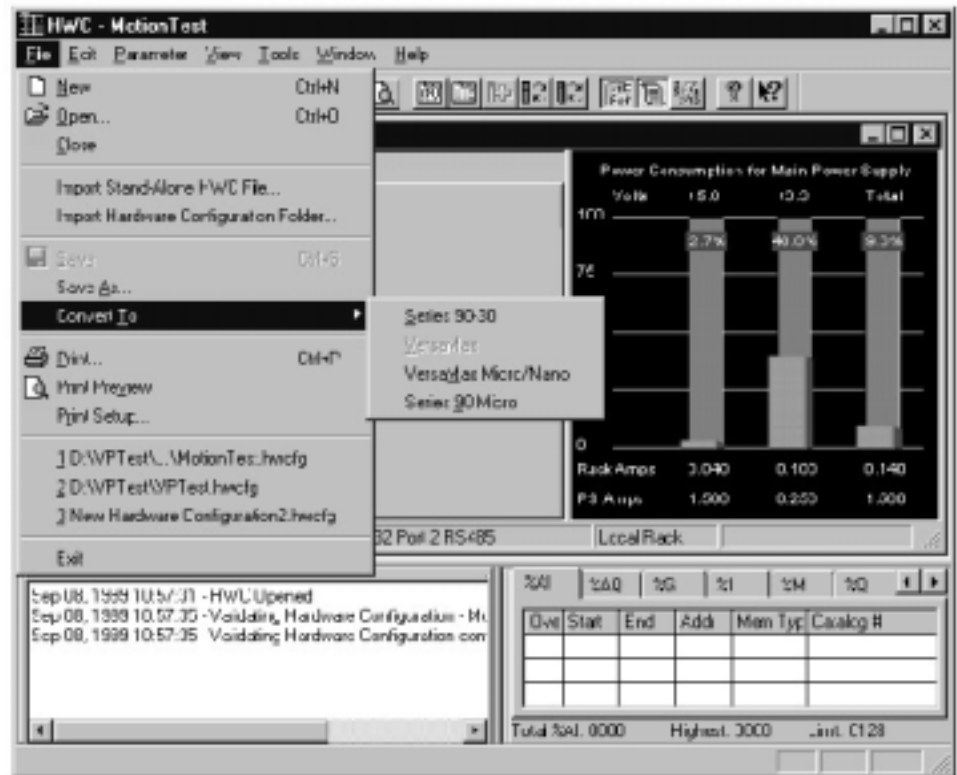

Figure 16-27. Hardware Configuration Rack Selection
Once a successful syntax check is completed for the local logic and motion programs, we need to set up the hardware configuration that will allow the example program to be downloaded to the DSM314 module. The sequence of steps in this example is not typical for most installations. Most users will first set up their hardware configuration and then generate the programming statements. However, the example is aimed at illustrating the CAM feature. Therefore, the order is reversed to better illustrate the link between hardware configuration and the CAM block name in the DSM314 hardware configuration. The next step in our example is to start the hardware configuration. There are multiple ways to do this. Two methods are presented here (consult VersaPro documentation for additional details). To perform these steps either (1) access the View selection from the main menu and then select Hardware Configuration or (2) click the Hardware Configuration toolbar icon. This will launch the Hardware configuration tool. The default hardware configuration screens are for the VersaMax product. Therefore, the first operation we need to perform is to select the Series 90-30. To perform this action, select File from the main menu, Convert To from the File menu, and Series 90-30 from the Convert To menu, as shown in Figure 16-27.